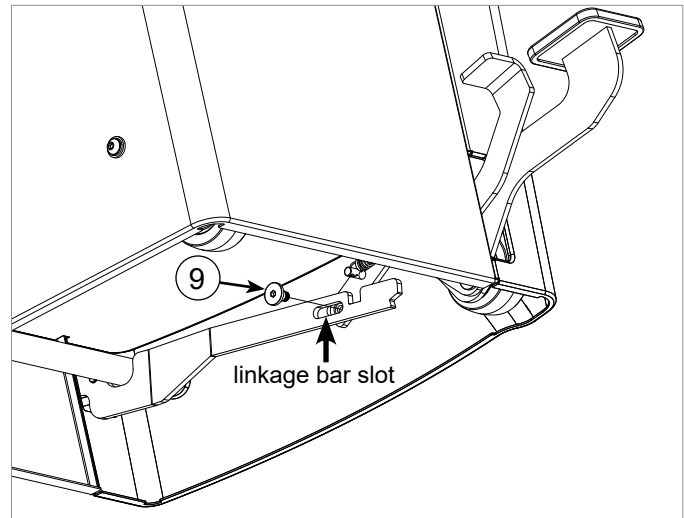

Fig. 36
18. You must now connect the pedal assembly to the linkage bar. There is a slot in the linkage bar near the pedal assembly and there is a plastic washer and threaded hole on the pedal assembly near the linkage bar. Pivot the linkage bar and the pedal assembly until the slot in the linkage bar aligns with the plastic washer and the threaded hole in the pedal assembly. Insert an M8 x 17.7 shoulder socket screw through the slot in the linkage bar and thread it into the hole in the pedal assembly (see Fig. 36). Fully tighten the screw with a 5 mm hex key.